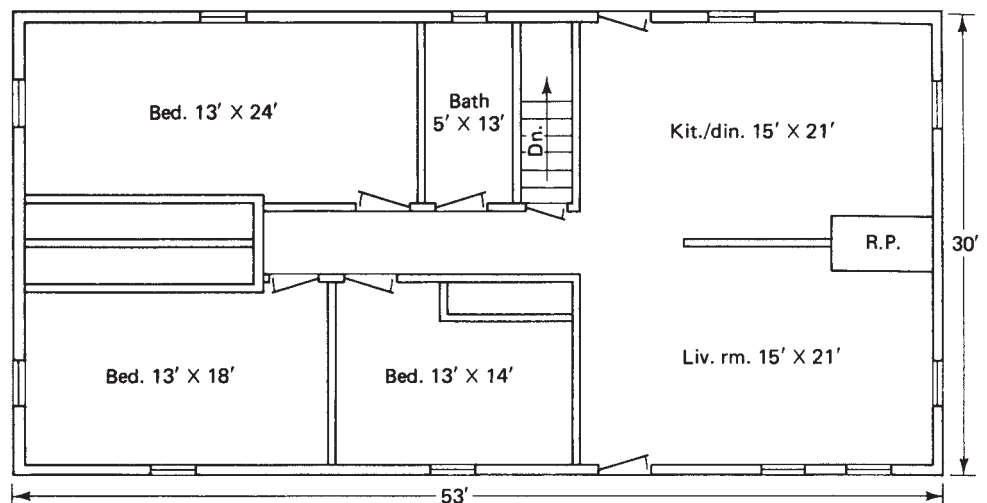

Figure 15-6
- D. Determine the number of studs and the shoe and plate materials for the exterior walls of the house shown in Figure 15-6. The framing will be done with 2×6 , 16 in. o.c.